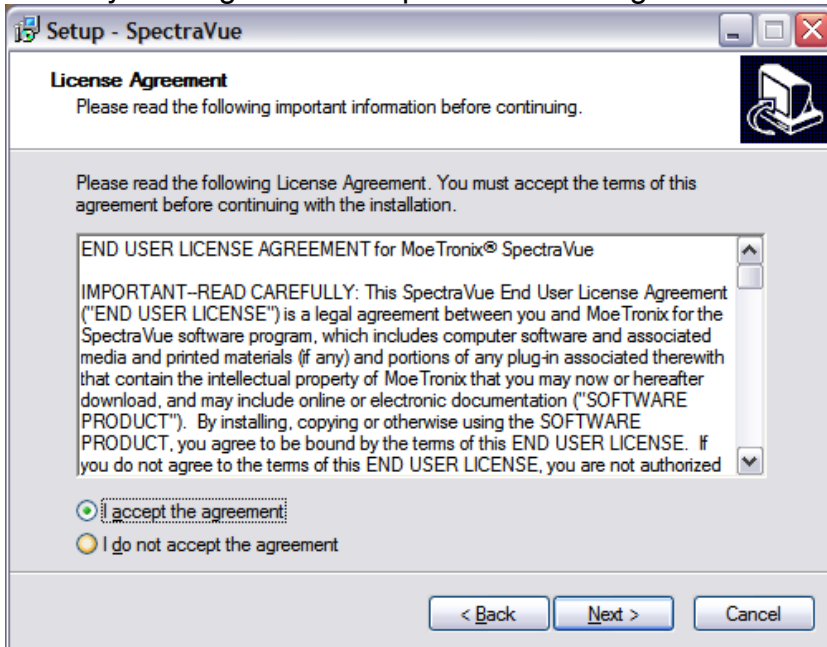

Fig 2: License Agreement
1.2 Continue by clicking next. Accept the License Agreement as in Fig 2.